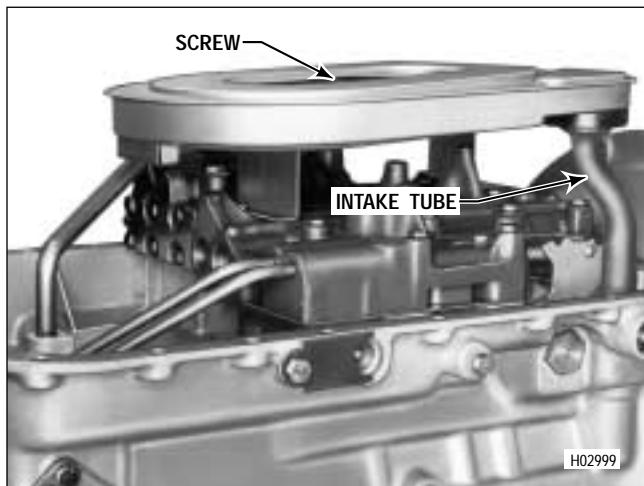

Figure 7-34. Installing Oil Filter Screw and Washer
(1) Install the sealring onto the straighter end of the intake tube. Lubricate the sealring with transmission fluid.
(2) Install the intake tube and sealring (Figure 7-34).
(3) Install the filter onto the intake tube, making sure the grommet in the filter fits the intake pipe snugly (Figure 7-34).
(4) Retain the filter with bolt 35 (Foldout 12,B) or bolt 42 and washer 43 for the deep pan or bolt 23 for the shallow pan configuration. Tighten the bolt to 10–15 lb ft (14–20 N·m).